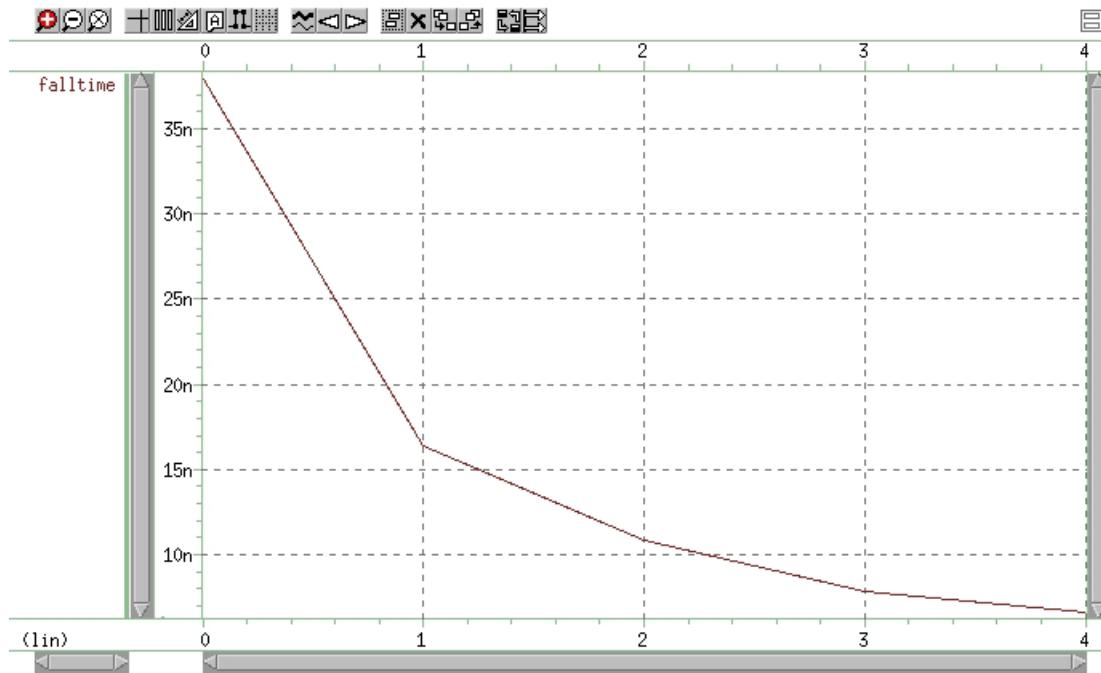

Figure 204 Plot of Measured Variable *falltime* vs. Amplifier Input Voltage
17. Left-click on the signal `falltime`. Drag and drop the selected signal into the WaveView panel. You should see a plot similar to the one shown in Figure 204 on page 1023.